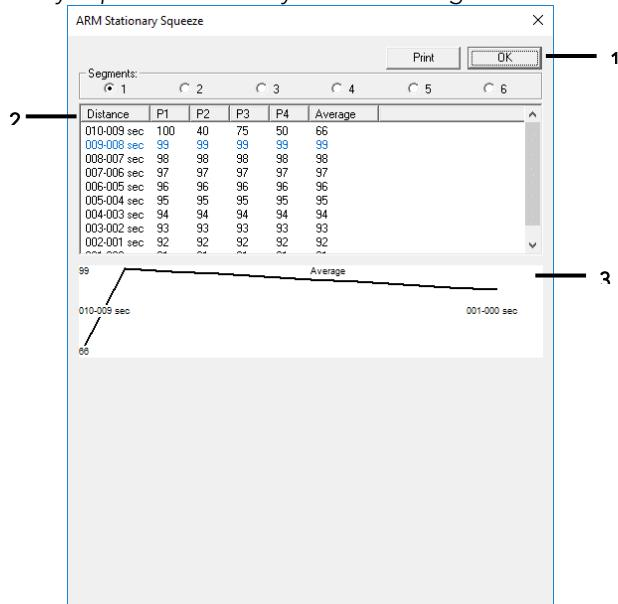

Figure 204: ARM Stationary Squeeze Summary Window
- b. Refer to ARM Stationary Squeeze Summary window in Figure 204.